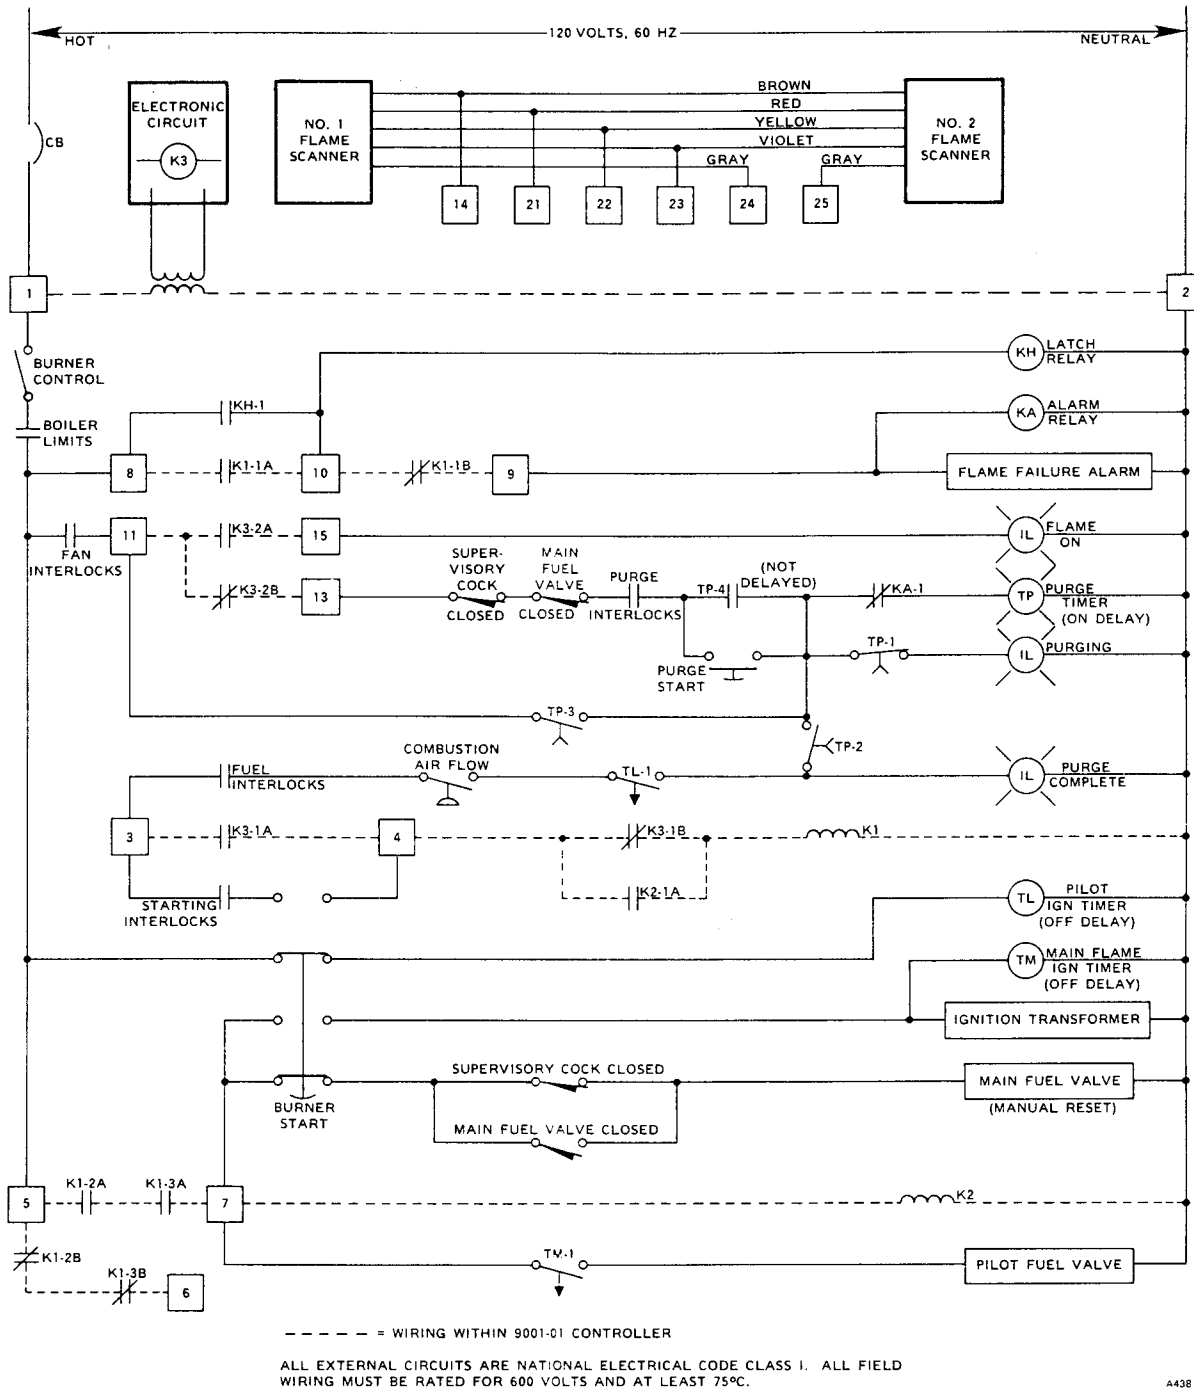

Figure 5—Semiautomatic Oil or Gas Burner System with Interrupted Pilot Ignition
## EXAMPLE OF BURNER OPERATION WITH THE TYPICAL CIRCUIT OF FIGURE 5
6. Install an electrical fitting in the housing base tapping and encase the extension leadwires in 1/2 inch flexible metal conduit or other flexible conductors meeting local standards. Terminate the assembly at a junction box and splice the leadwires to conductors extending to the 9001 Controller. The scanner to controller wiring scheme is shown in Figure 5. For a watertight connection, use an appropriate fitting and liquid tight conduit arranged to pitch downward from the scanner. Select wire according to paragraph 5 under "Controller Wiring."